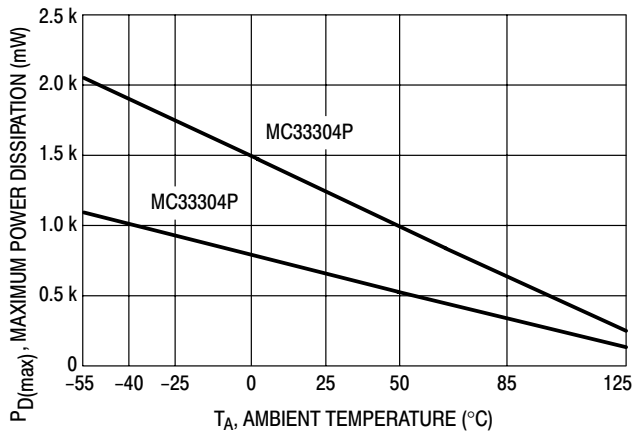

Figure 2. Maximum Power Dissipation versus Temperature
5. Power dissipation must be considered to ensure maximum junction (T_J) is not exceeded. (See Figure 2)